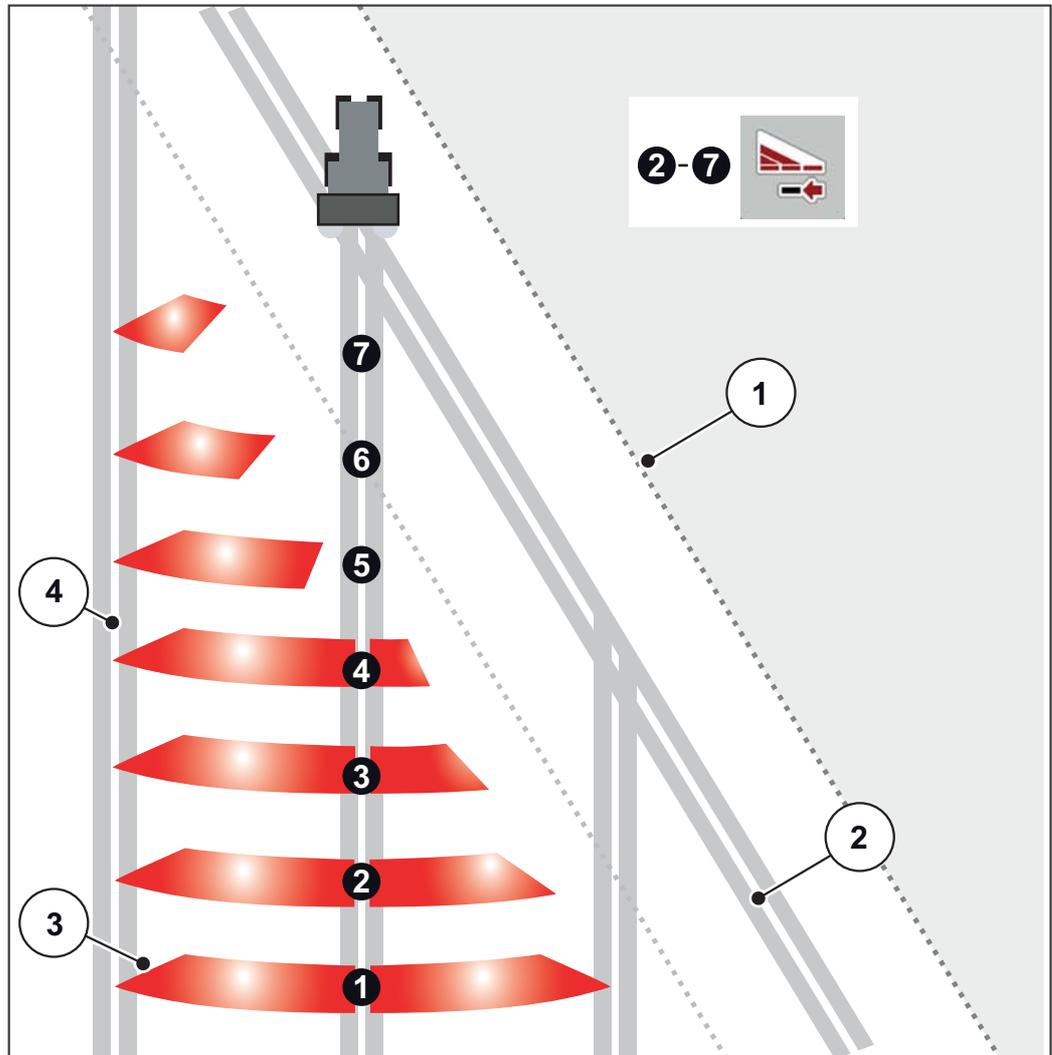

Figure 5.6: Automatic section control
- Section control is possible from the outside to the inside or vice versa. See Figure 5.6.